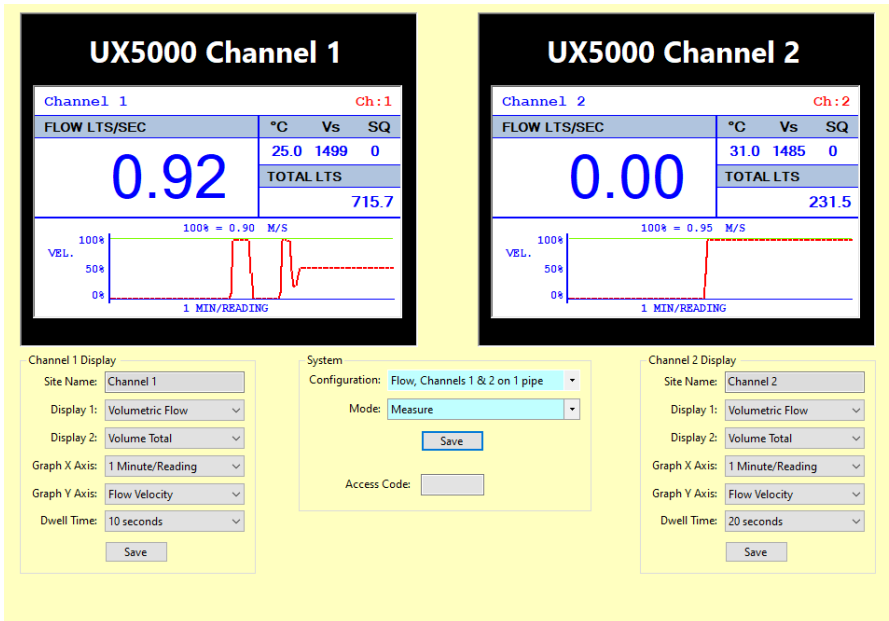

Figure 24: Measure mode (shown for dual channel)
- In Measure mode (see Figure 24), the screen displays a flow value with a signal quality of at least 40.